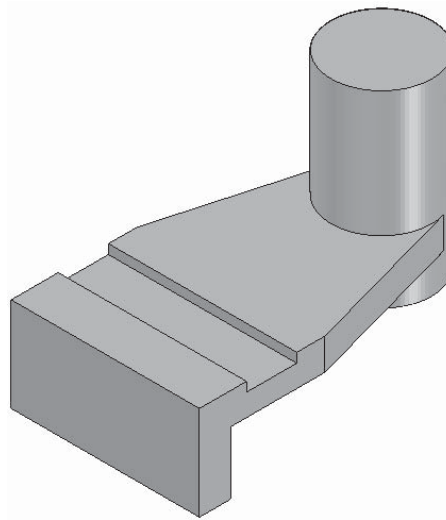

Figure 4-61 Model after creating the third feature
- Define a reference plane at an offset of 10 units from the bottom face of the second feature and use it to create the third feature, refer to Figure 4-61.
6. Choose **Finish** and then choose **Cancel** to create the feature and exit the **Protrusion** tool. The model, after creating the third protrusion feature, is shown in Figure 4-61.